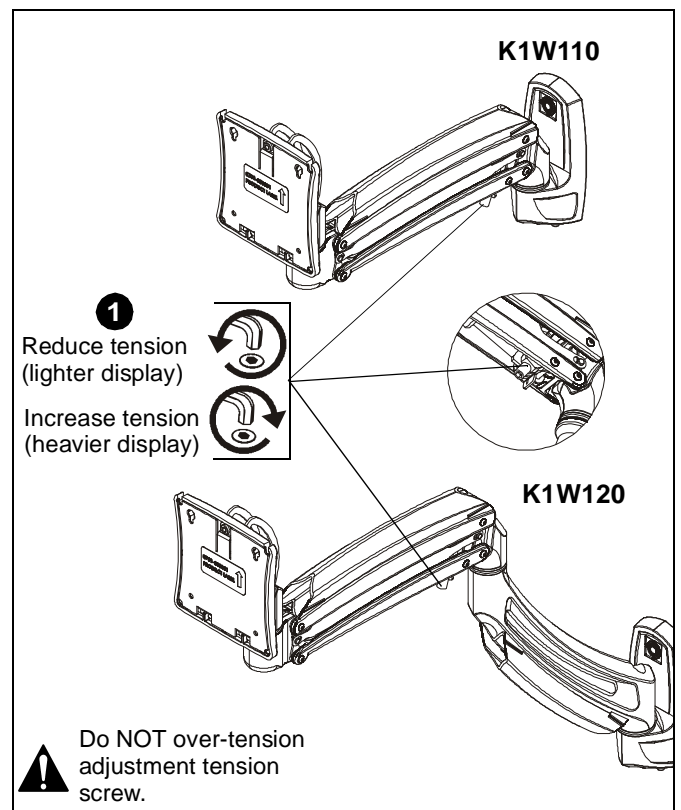

Figure 16
- Use 3/16" hex key (M) to adjust lift arm tension adjustment screw. (See Figure 16)